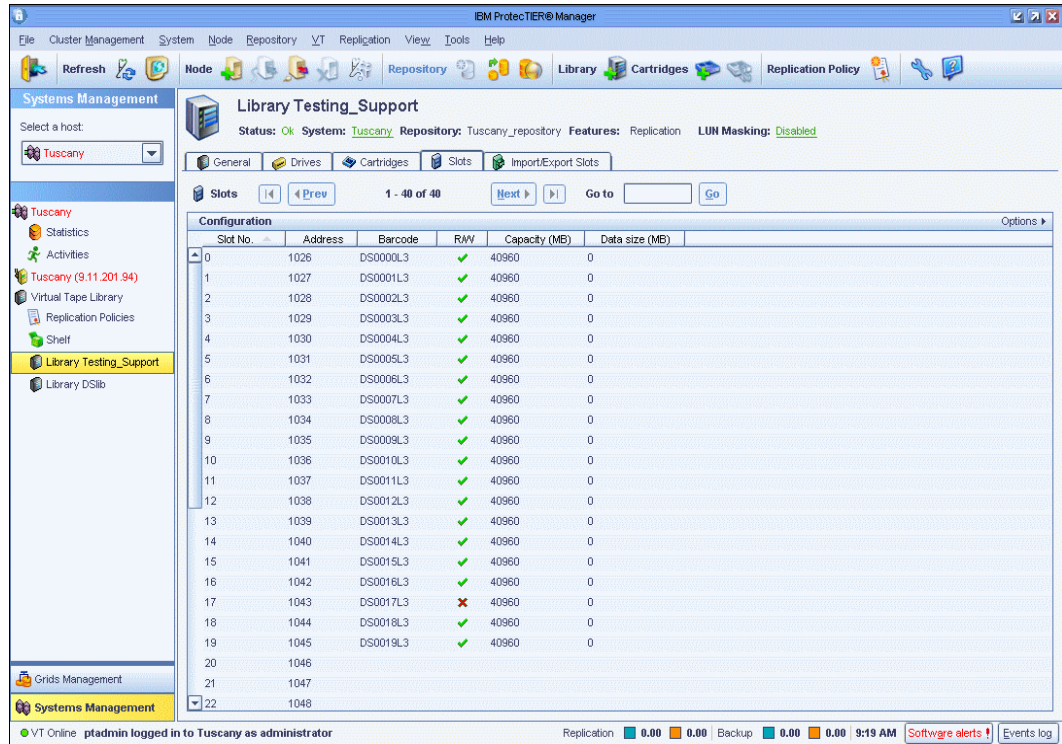

Figure 10-51 Virtual tape library is renamed
- Enter a new name for the selected library and click **OK**. The Rename library window closes and the library's name is changed (Figure 10-51).